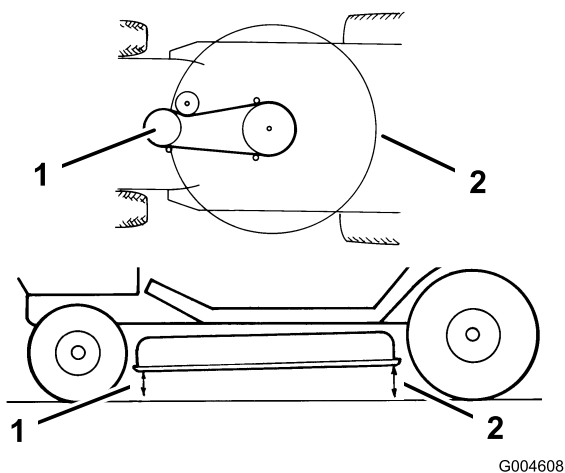

Figure 43
10. Check the front-to-rear blade slope by measuring between the bottom of the mower (front center and rear center) and the flat surface (Figure 43). If the front of the mower is more than 5/8 inch (16 mm) lower than the rear of the mower, adjust it; refer to steps 11 through 17.